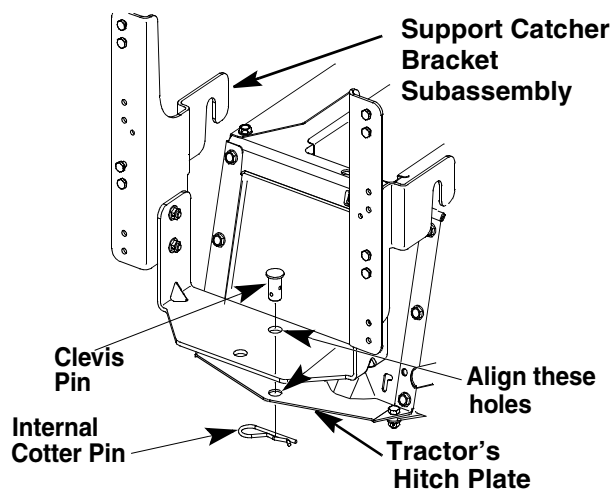

Figure 7
- Align the hole at the lower end of the support bracket subassembly to the hole on the hitch plate on the tractor and insert the Clevis Pin (Ref. No. 7) through these two holes. Secure the Clevis Pin with the Internal Cotter Pin (Ref. 11). See Figure 7.